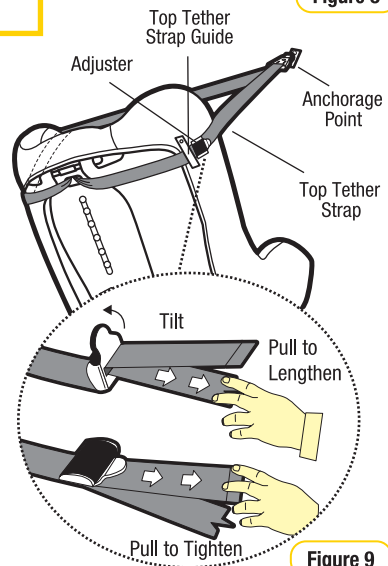

Figure 9
Step 7: Pull to tighten to remove all the slack, from the upper anchorage strap. Do not overtighten as this could cause the restraint to lift off the vehicle seat (refer Figure 9).